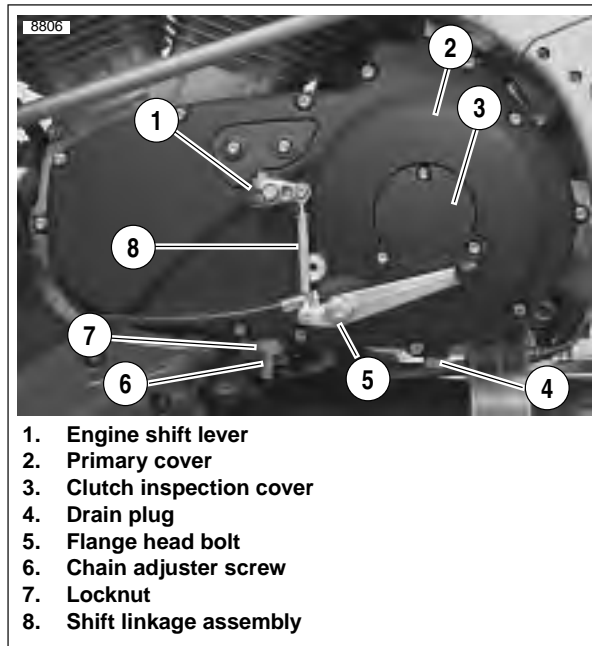

Figure 6-1. Removing Primary Cover
4. See Figure 6-1. Place a drain pan under the engine/primary area. Remove drain plug (4) and drain lubricant from primary drive.
5. Remove engine shift lever assembly (1) and rubber washer. Do not scratch primary cover.
6. Remove flange bolt (5) from primary cover.
8. See Figure 6-1. Loosen locknut (7). Turn chain adjuster screw (6) counterclockwise to remove tension on primary chain.
10. See Figure 6-1. Remove clutch inspection cover (3).